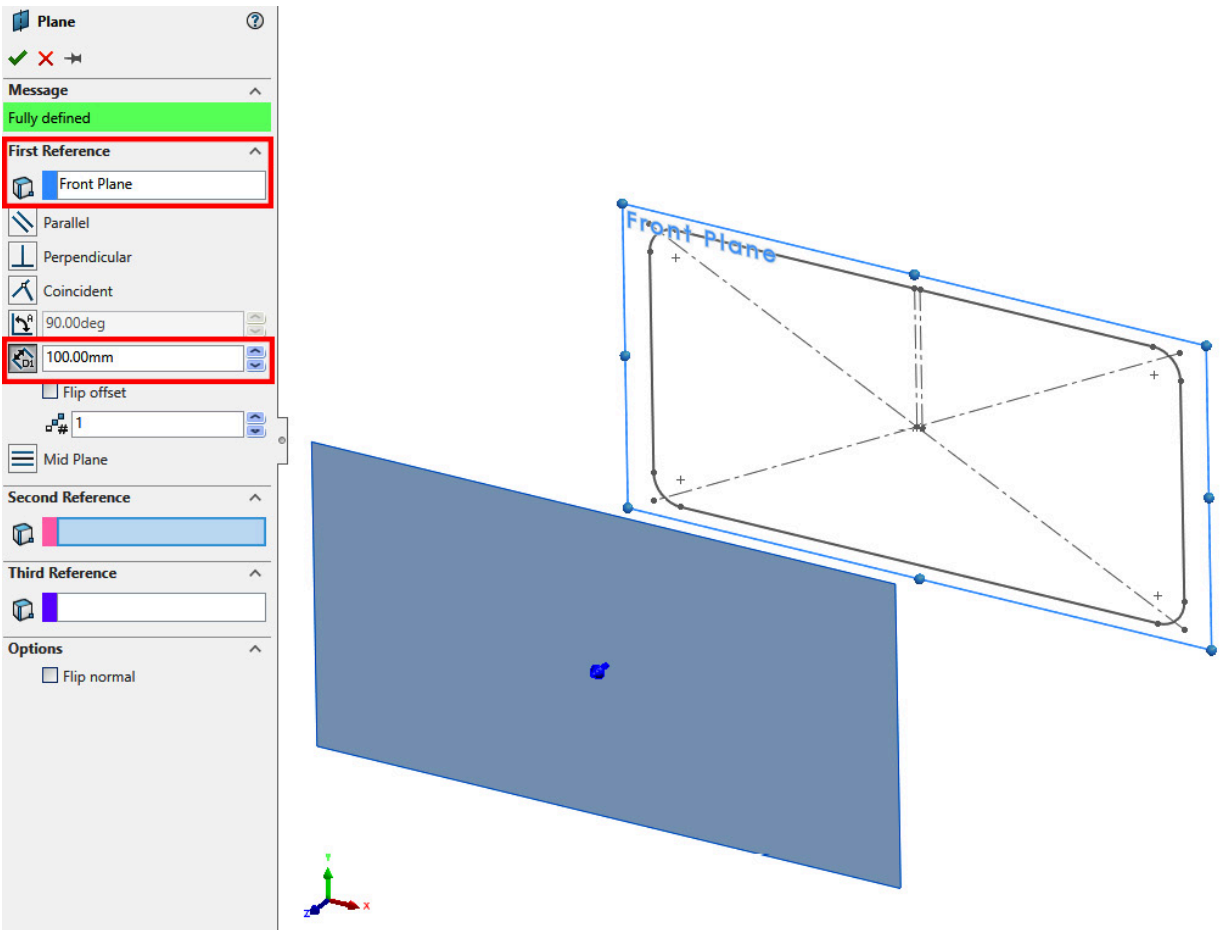

Figure 7.3: Adding a new Plane
2. Next, we need to create a second profile, and so, we need a new Plane. This can be created by selecting the **Front Plane** (ensure that you have already exited the previous sketch) and then selecting **Reference Geometry | Plane** from the **Features** tab. Set the offset distance as **100mm**, as illustrated in *Figure 7.3* and then press the green **OK** check mark to create the Plane: